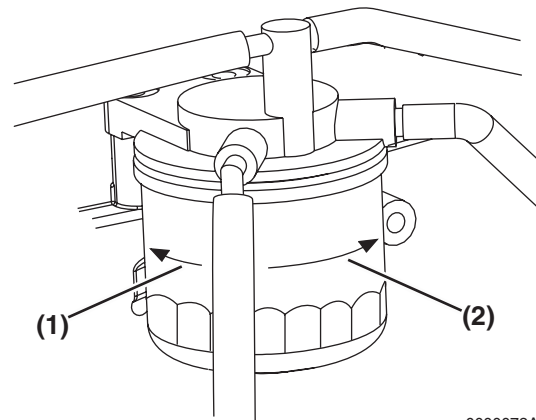

Figure 5-14
3. Remove the fuel filter with a filter wrench, turning it to the left (**Figure 5-14, (1)**). When removing the fuel filter, carefully hold it to prevent the fuel from spilling. Wipe up all spilled fuel.
5. Install the new fuel filter. Turn to the right (**Figure 5-14, (2)**) and hand-tighten it only until it comes in contact with the mounting surface. Use a filter wrench to tighten it one additional turn.